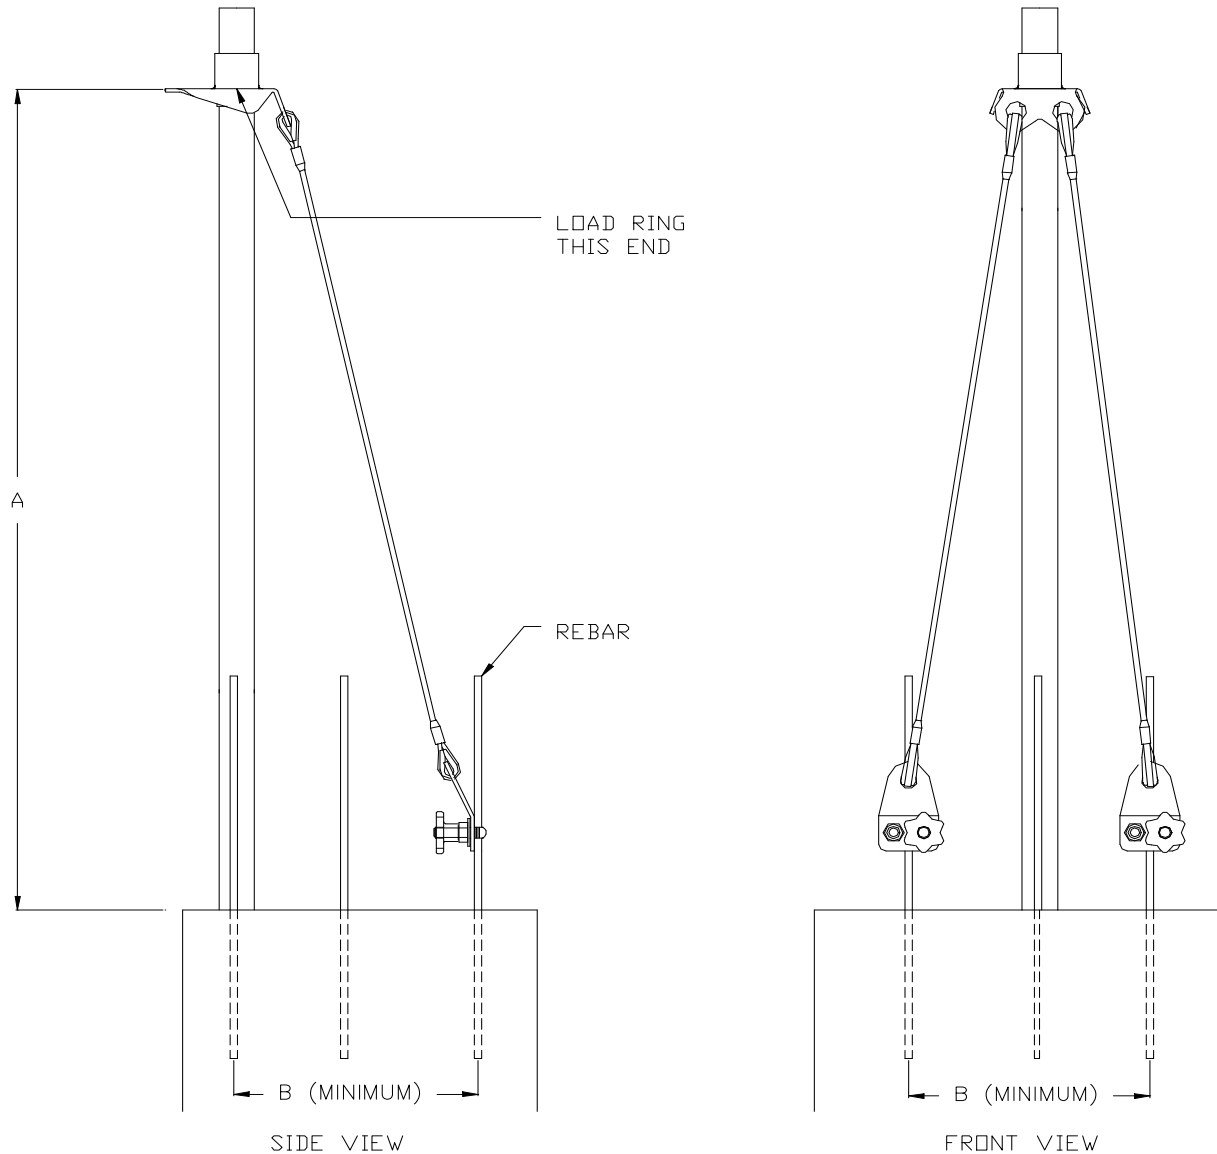

FIG. 1 STANCHION HEIGHT V.S. MINIMUM REBAR SPACING
1. Installation of the Skyline™ horizontal lifeline begins with the placement of the end stanchions. Begin by placing the stanchion tube over an exposed length of rebar in the center of the concrete structure you wish the end of the Horizontal lifeline to begin at. If no rebar is present in the center, a ½” anchor bolt may be installed at this location such that at least 2” is encased in the concrete, and at least 2” is left exposed over the top surface of the concrete. This bolt or rebar section is only needed to keep the bottom of the stanchion tube from slipping outward during a fall arrest. The welded top plate should be at the top end of the assembly. (see fig. 1)
3. The spacing of the rebar that will be used to tie back the stanchion assembly controls the load amplification of the tie back cables. For this reason the safety of the system is determined by controlling this spacing within certain minimum limits. As the stanchions increase in height the minimum rebar spacing must also increase to limit the tie back cable line tension. Fig 1 (stanchion height vs. minimum rebar spacing) shows a typical rebar stanchion assembly and a stanchion height vs. minimum rebar spacing chart. **WARNING** use only as shown. Do not install system, using rebar spacing less than that shown in the chart. Serious injury or death could result. To install loosen the hand knob on the end of the tieback cable assembly. Slide the U-bolt over the end of the rebar where the tieback cable is to be attached. The cable may be attached to Grade 40 or grade 60, #6 through #11 size rebar (¾” through 1-½”) **ONLY! DO NOT USE** with any other grade of rebar. Repeat with the second tieback cable.